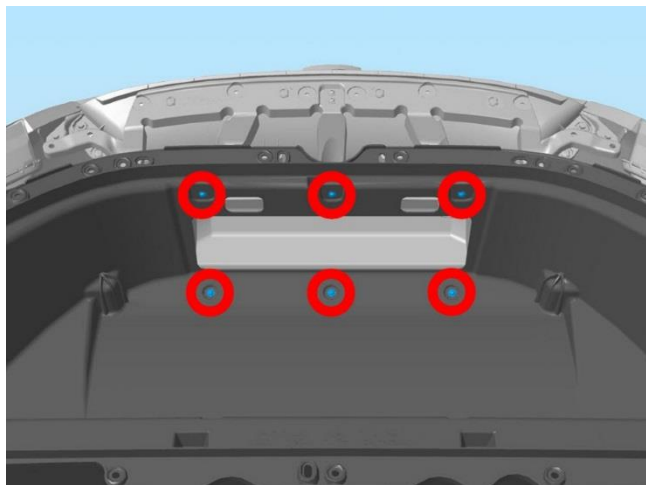

Figure 18. Underhood storage unit fasteners (3/3)
- 6 fasteners as shown (Figure 18).